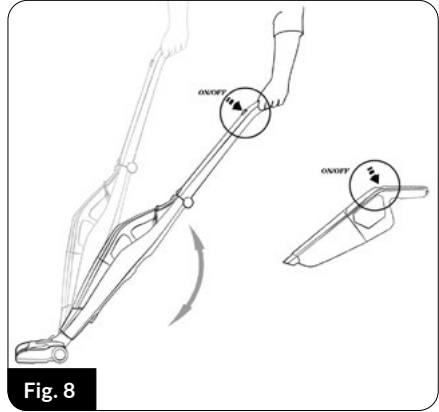
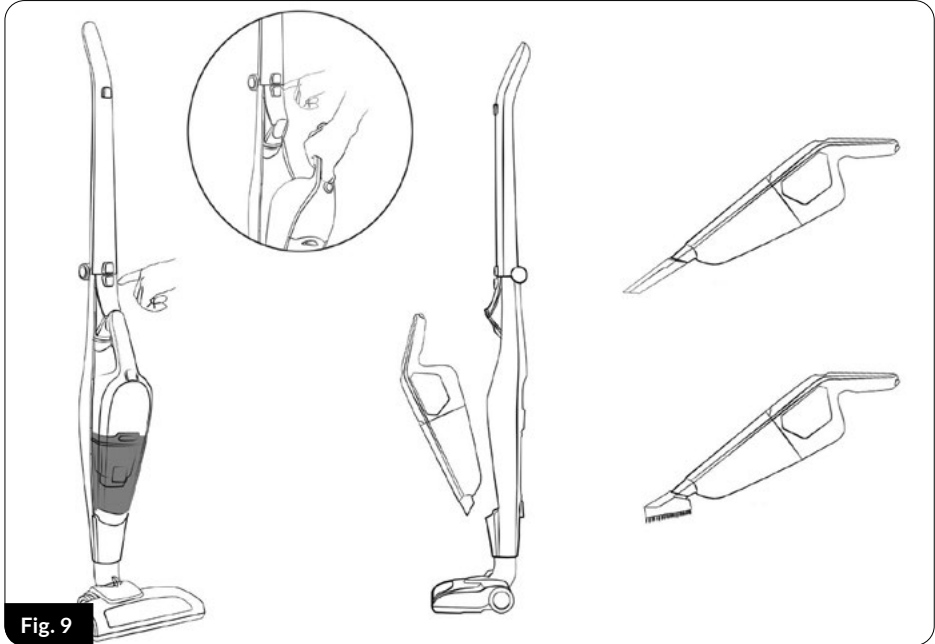

Fig. 8
Fig. 9
2. Start the vacuum cleaner with the button (6) directly on the vacuum cleaner or with the button (1) on the main handle (fig.8). The operation of the buttons is independent of each other as long as the vacuum cleaner is in the main handle.
4. The electric brush (15) with LEDs (16) illuminating the vacuumed surface is activated together with the vacuum cleaner. The multifunctional electric brush is suitable for vacuuming all types of hard surfaces and carpets.
5. The use of additional vacuum cleaner accessories (small brush, crevice brush) is possible after removing the vacuum cleaner from the main handle. Press the button (4) and remove the vacuum cleaner from the main holder (2) and then connect a suitable accessory to the end of the vacuum cleaner (fig.9).